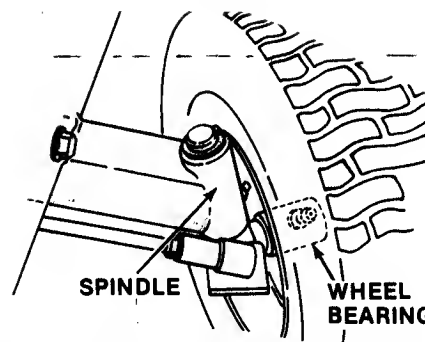

FIG. 13 - FRONT END GREASE POINTS
- **FRONT WHEEL BEARINGS:** Lubricate bearings through the fitting on hub of front wheel. See FIG. 13.
- **FRONT AXLE PIVOT & SPINDLES:** Lubricate spindle fitting on each wheel ( FIG. 13 ) and the center pivot fitting on underside of the front axle.